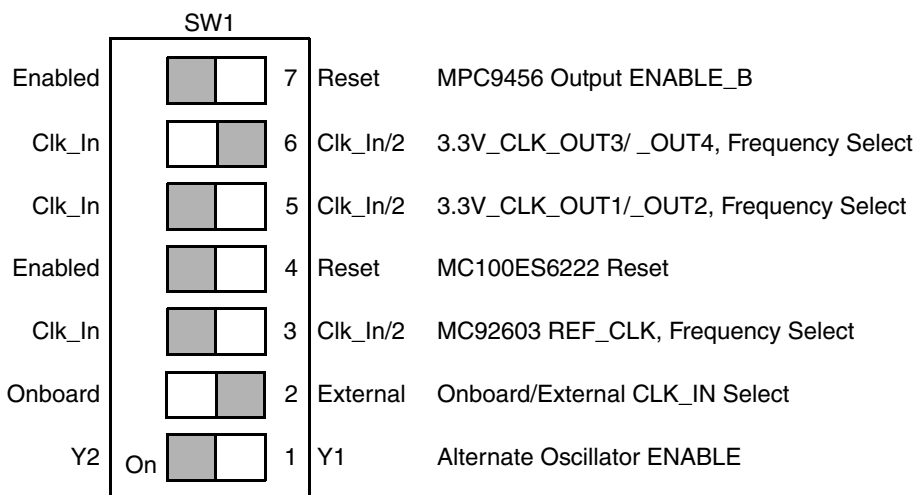
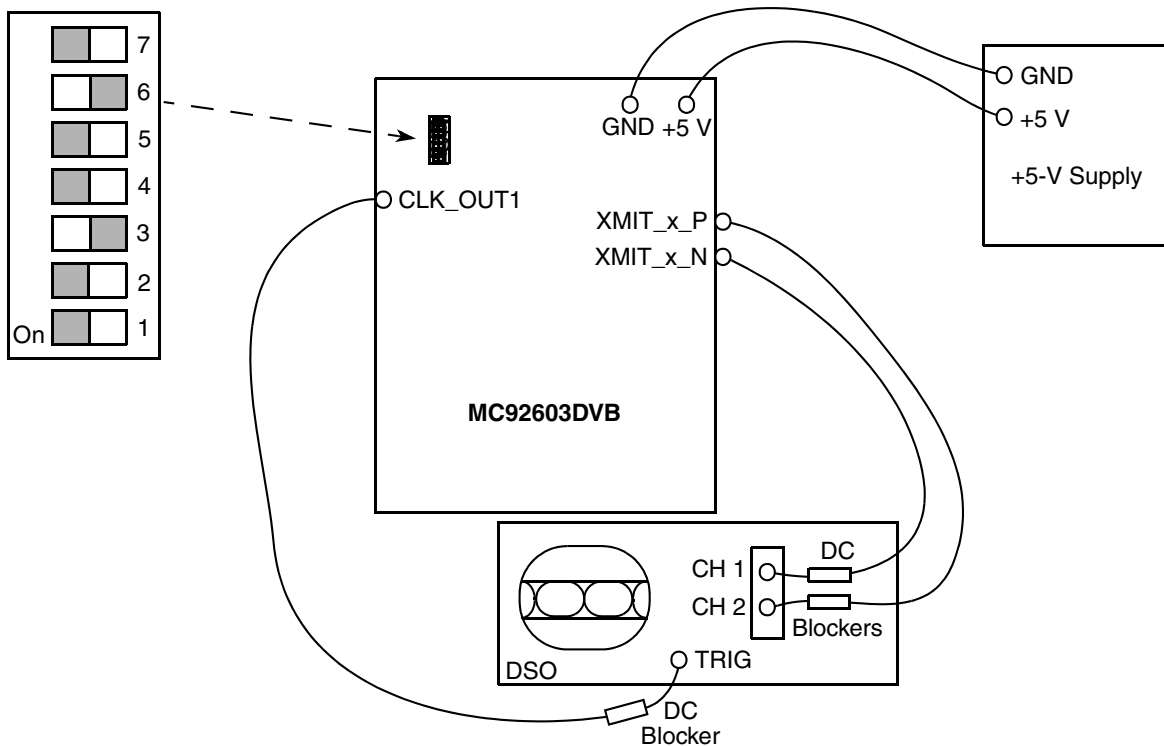

Figure 2-3. Reference Clock Selection Example Switch Settings
Figure 3-1. Data-Eye Observation Setup
The MC92603DVB and test equipment should be connected as shown in Figure 3-1. Configure clock circuits with SW1, as shown in Figure 2-3.
1. Connect the MC92603DVB and test equipment as described in Figure 3-1 and Table 3-4. This will place the MC92603 in PN generation mode with the MC92603 in reset.